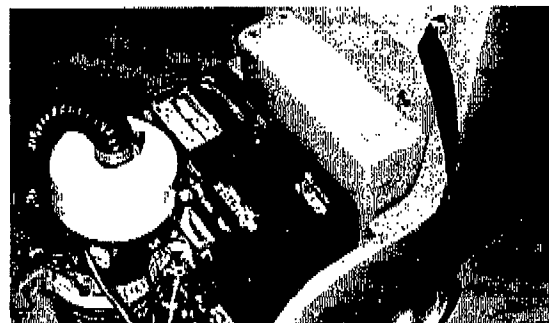

FIG. 2
3. Disconnect vacuum hose from recovery tank snout. Carefully install bottom battery into compartment with battery posts positioned towards rear of machine (Figure 2).